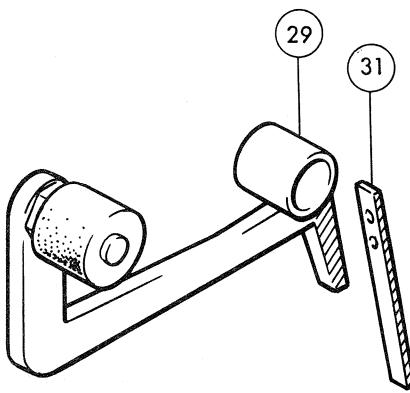
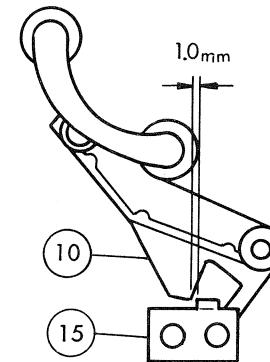

Fig.26
Fig.27
1. Thoroughly wipe off or replace if scratch, stain, deformation, etc. are found in ③, ⑮ and ⑦; after installation make sure that they have smooth rotation.
2. Install ⑯ and ⑪, so that the oblique sections lie on the same plane. (See Fig. 26.)
3. Install ① and ② assy parts by pushing them downward.
4. After installing ⑩, ⑮ and ⑯, install ⑬ by pushing it rightward.
5. Install ⑮ to a position, with the knob main set to “  ” so that the gap between ⑮ and ⑩ is approximately 1 mm. (See Fig. 27.)